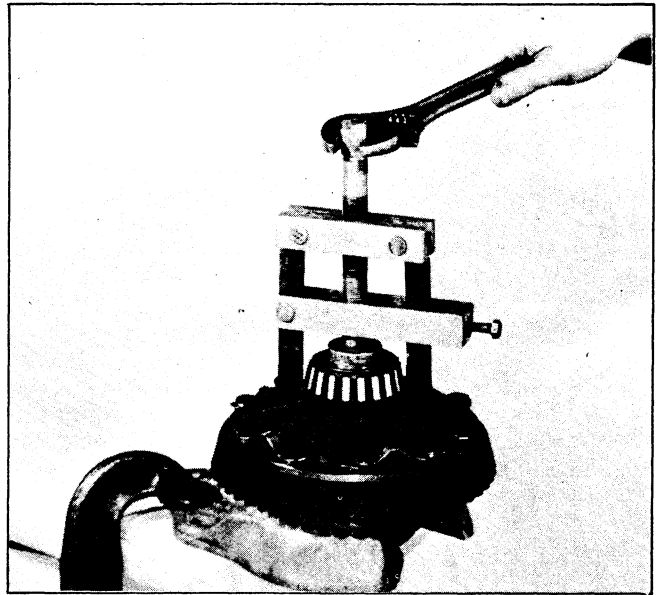

Figure 2-7. Bearing Cone Removal
8. Remove differential bearing cones (9). Care must be taken to insure that bearing puller is located in cast recesses of differential case so as not to pull on bearing cage. See Figure 2-7.
9. Remove shims (12). NOTE: If drive gear and drive pinion are to be reassembled, note position of shims and replace accordingly.
10. Remove screws (13) and drive gear (14).
11. Remove differential pinion mate shaft (15), differential pinion mates (16) and thrust washers (17), (one back of each pinion). Remove differential side gears (18) and thrust washers (19), (one back of each gear).